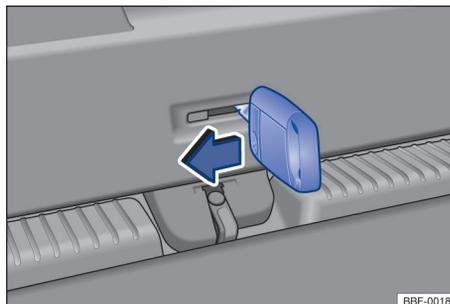

Fig. 58 In the luggage compartment: unlock the boot lid.
- Insert the key blade into the opening in the boot lid → Fig. 58 and move the release lever in the direction indicated by the arrow. <